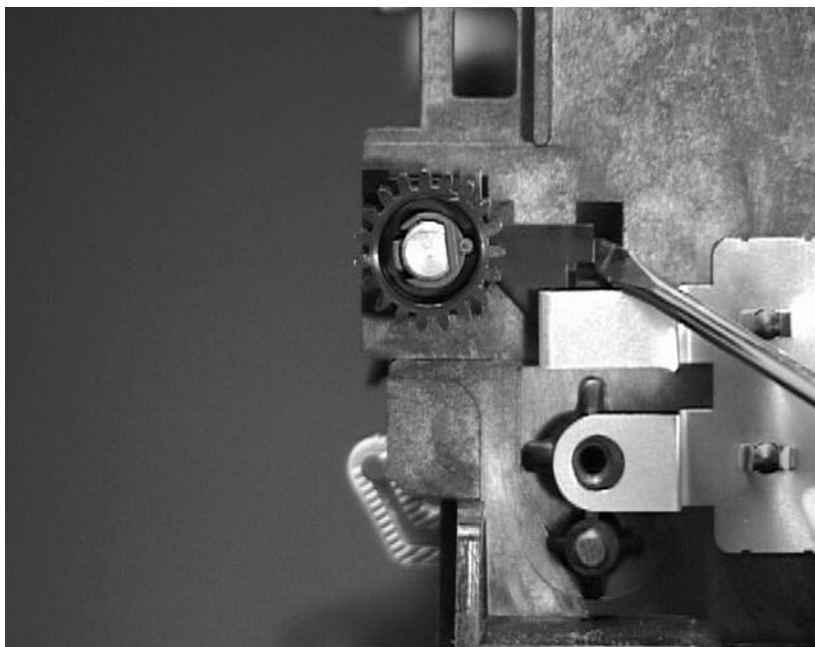

Figure 6-58 Right Delivery Roller Tab
- 2 Facing the left side of the printer, insert a flat-blade screwdriver as shown in Figure 6-58, and twist gently to release the tab on the right side of the Delivery Roller.
- 4 Remove the protective plastic and disconnect the 4-pin connector on the back of the Laser Scanner Assembly (see item D in Figure 6-58).